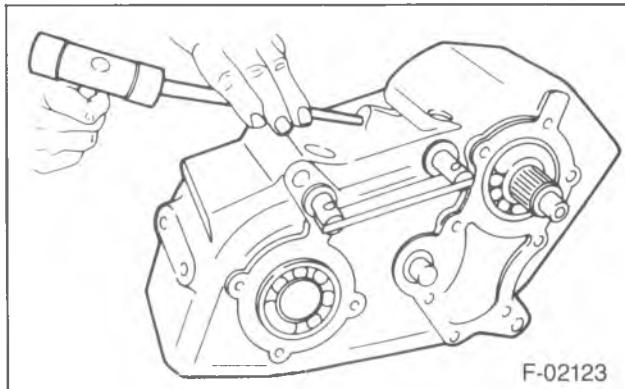

Figure 14—Shift Fork Lock Pin Installation
5. Input shaft bearing (12) and shaft (22) into the case.
6. Range rail (39) into the case.
7. Sliding clutch (34) and fork (77).
- Place the assembly over the input shaft (40) in the case.
- Position the assembly to receive the range rail (39).
8. Lock pins (36).
- Drive the lock pins into the forks (figure 14).